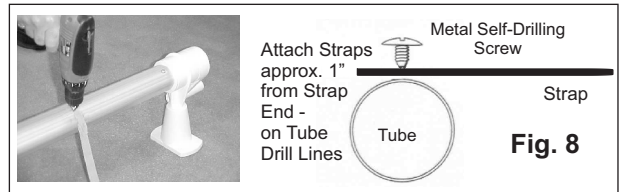

Fig. 8
- Attach straps to tube with a metal screw on a DRILL LINE (see Fig. 8). approximately 1" (2.5cm) from end of Strap. **DO NOT pre-drill holes** or over-tighten screws. A small "pilot hole" may help.